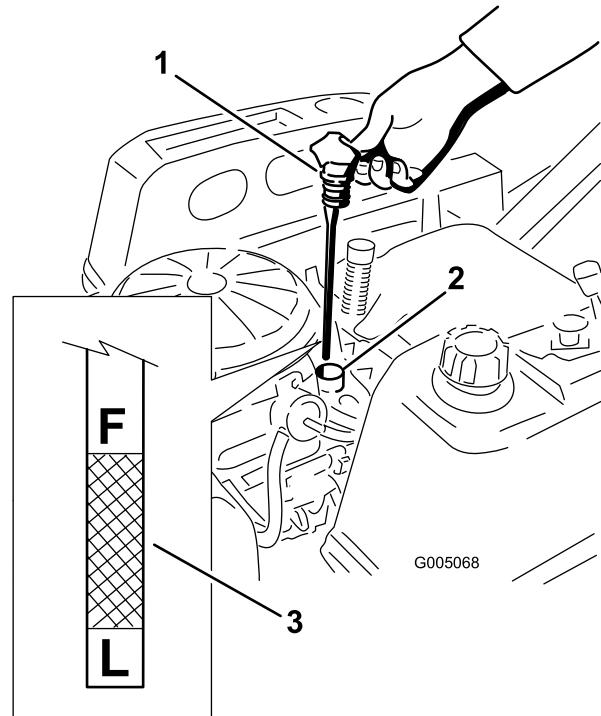

Figure 30
- Pull and remove the oil fill cap/dipstick; wipe oil off. Reinsert the dipstick and push firmly into place (Figure 30).
- Remove the dipstick and check the oil level. (Figure 30). The oil level should be up to, but not over, the **F** mark on the dipstick.
- Turn the drain valve 1/4 counter clockwise to open and allow the oil to drain (Figure 32). Remove the oil fill cap/dipstick (Figure 30).
15. Slowly pour approximately 80% of the specified oil into the filler tube (Figure 30).
16. Install the oil fill cap/dipstick and push firmly into place (Figure 30).
17. Check the oil level (Figure 30); refer to Checking the Oil Level.
19. Install the oil fill cap/dipstick and push firmly into place (Figure 30).